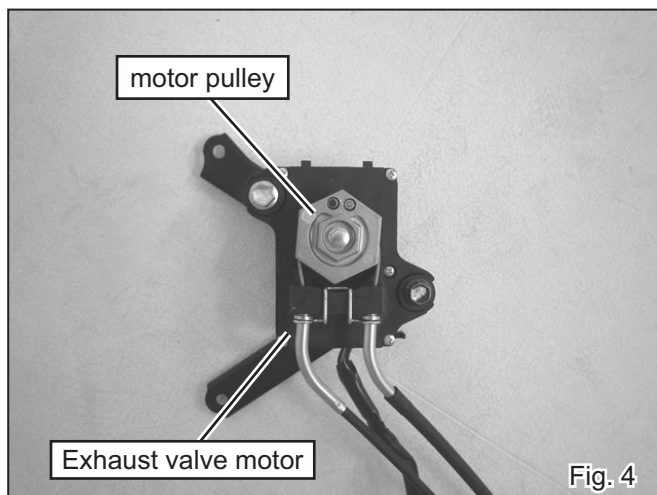

Fig. 4
- 6) Unscrew stock bolt from motor pulley on exhaust valve motor with caution not to turn the pulley. Then remove pulley from exhaust valve motor. (See Fig.4)